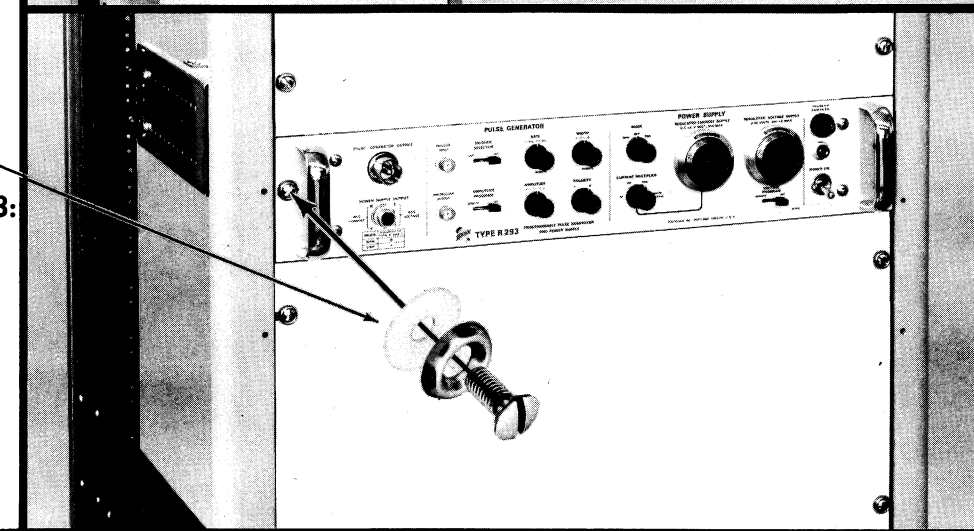

Fig. 10-9. Procedures for inserting and removing the instrument after the slideout tracks have been installed.
4. Referring to Fig. 10-9, insert the instrument into the rack, but do not connect the power or program cables and do not install the securing screws until the following adjustments have been made.
4. When the adjustments have been completed and the slideout tracks operate smoothly, connect the power and program cables to the connectors on the rear panel and secure the instrument into the rack with the securing screws and washers as shown in Fig. 10-9.
After the slideout tracks have been installed initially and adjusted to the rack, the Type R293 can be removed or reinstalled at any time by following the procedure given in Fig. 10-9. No further adjustments are required.